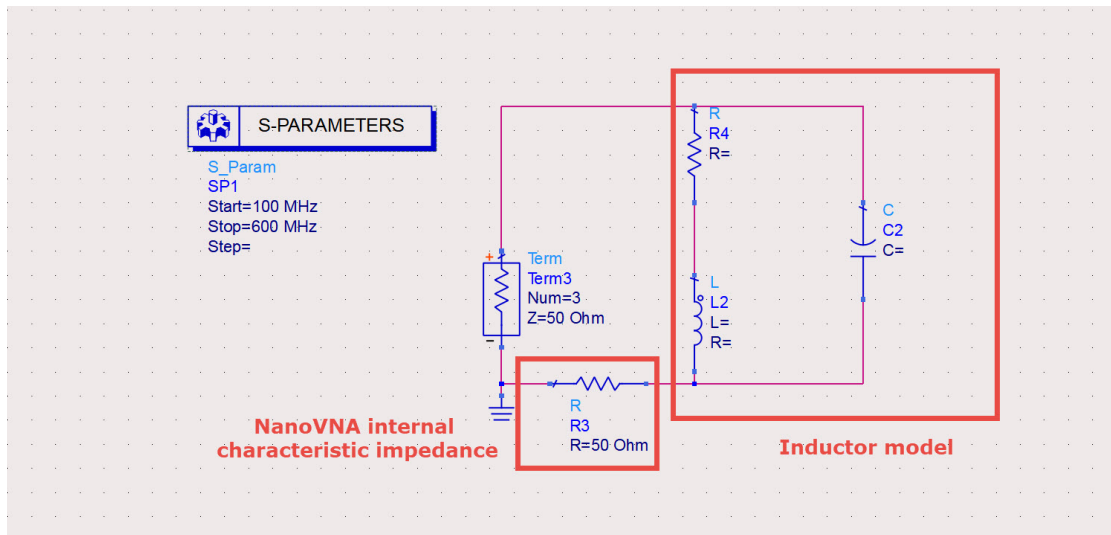

Figure 5: Inductor model with parasitic effects (VNA measurement)
2. Create a new schematic window "*model_1*", draw the circuit as shown in Figure 5. The additional 50 ohm resistor resembles the VNA's internal impedance when measuring S_{11} . In other words, for any 1-port measurement, the signal sent out by the VNA will see this resistor and the entire inductor model circuit as if they are in series. Type in the RLC method you obtained from *Method 1*. Note that the R value you find from the equation is indeed the sum of NanoVNA internal impedance and inductor model impedance.
3. Create a new schematic window "*model_2*", same as in Figure 5. Type in the RLC method you obtained from *Method 2*. Again, the inductor model impedance is in series with NanoVNA internal impedance.